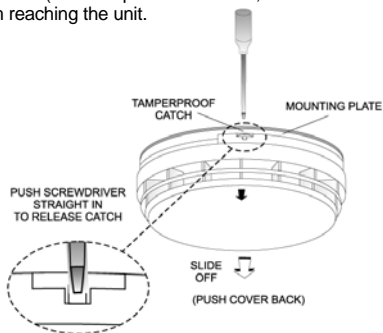

Figure 4: Removing the Smoke Alarm from the Mounting Plate
1. Remove the mounting plate from the Smoke Alarm. If it has been latched release the tamperproof catch with a small screwdriver, as shown in Figure 4, and slide the alarm from the mounting plate.